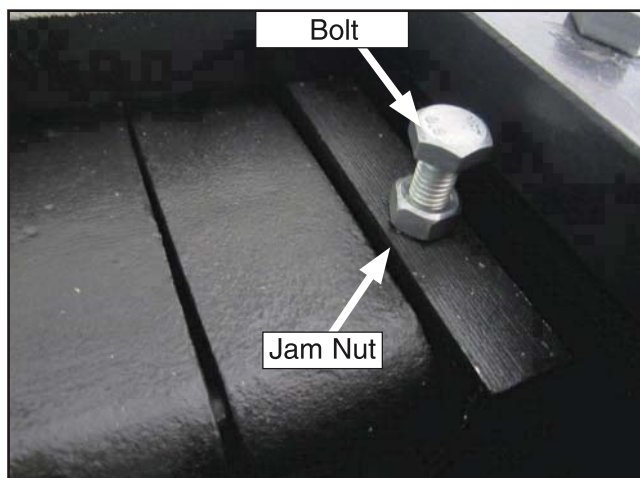

Figure 56. Pressure bar jam nut and bolt (one side shown).
6. Using the same zeroed reference on the Rotacator, adjust the height of the pressure bar and outfeed rollers to their given specifications. The adjustment bolt, jam nuts and set screws are shown in **Figures 56 + 57**.
12. Without moving the table, adjust the pressure bar (**Figure 56**) and outfeed rollers (**Figure 57**) in the same manner, using the wood blocks as the reference point.